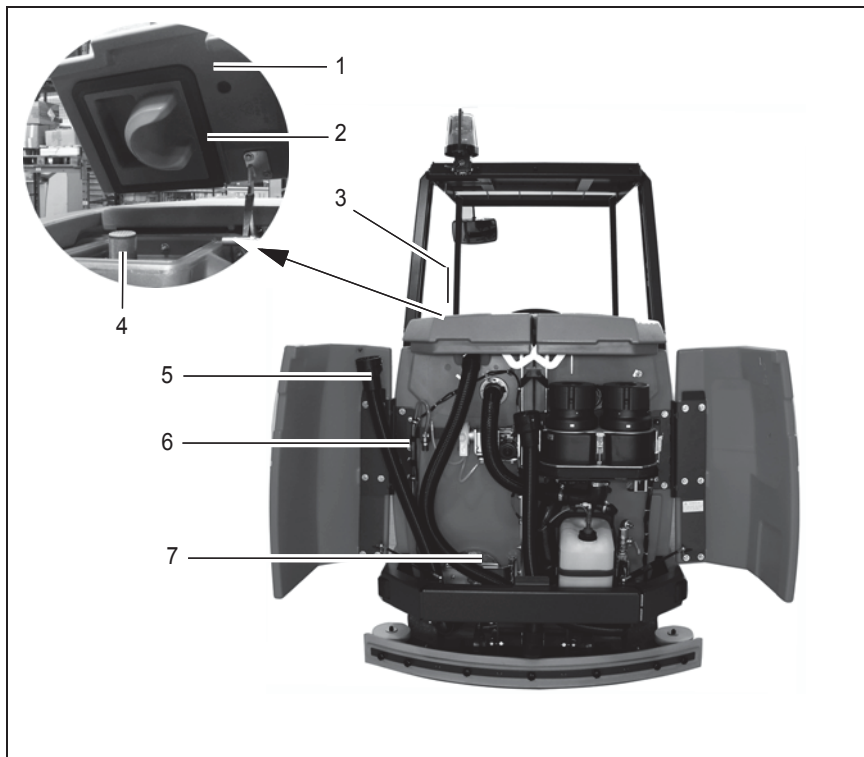

Fig. 32
The recovery tank (Fig. 32/3) must be emptied and flushed clean after finishing work.
1. Park the vehicle so that the waste water draining hose (Fig. 32/6) can be positioned over a drain in the floor.
4. Detach the waste water draining hose (Fig. 32/6) and lower it slowly.
5. Unscrew the cap (Fig. 32/5) to open it. The quantity drained can be regulated by turning the cap and pivoting the cap open fully, if necessary.
Clean the recovery tank (Fig. 32/3) every day or as necessary. The cleaning flap (Fig. 32/7) is available for this.
8. Open the recovery tank lid (Fig. 32/1).
11. Unhook the waste water draining hose (Fig. 32/6), lower it slowly and open the cap (Fig. 32/5).
- Clean the screw cap on the waste water draining hose (Fig. 32/6) daily.